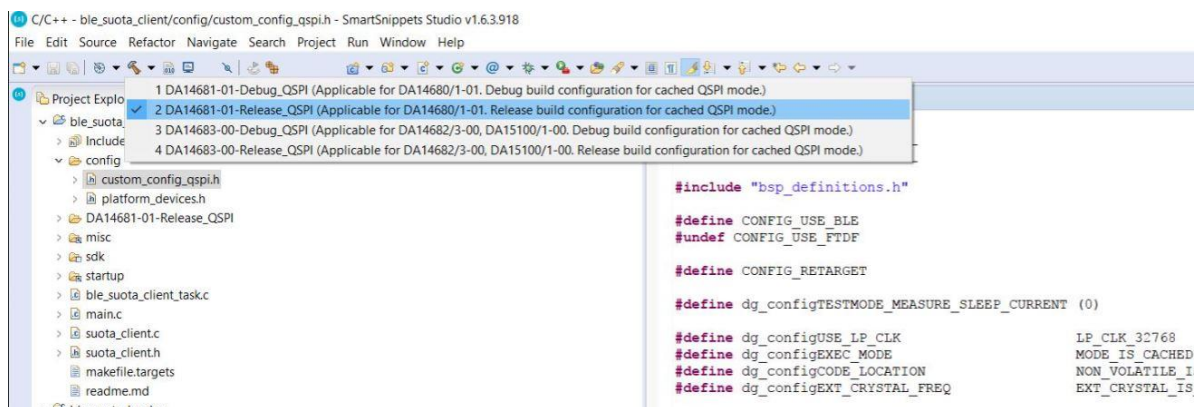

Figure 56: Building ble_suota_client
- Build the project `ble_suota_client` (See Figure 56).